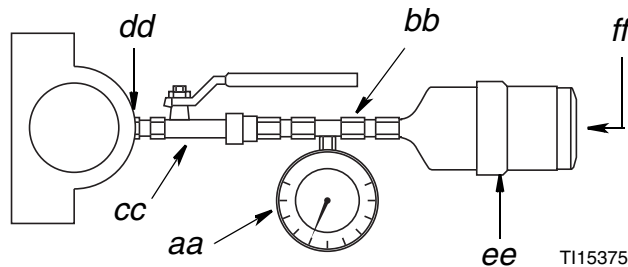

FIG. 2
A pressure manometer is a simple device that measures pressure output. To build a pressure manometer you need a pressure gage (*aa*), tee fitting (*bb*) and stop valve (*cc*). FIG. 2 shows a correctly assembled pressure manometer, connected to the lubricator and a lubrication point.
2. Remove the plug (A).
3. Install lubricator unit into adapter (B).
5. Screw a pressure manometer into the lubrication point (*dd*) (FIG. 2, page 7).
7. Attach lubricator and adapter (B) to the pressure manometer as shown in FIG. 2 and turn the switch to "ON" (*ff*).
11. Disconnect adapter (B) from manometer.